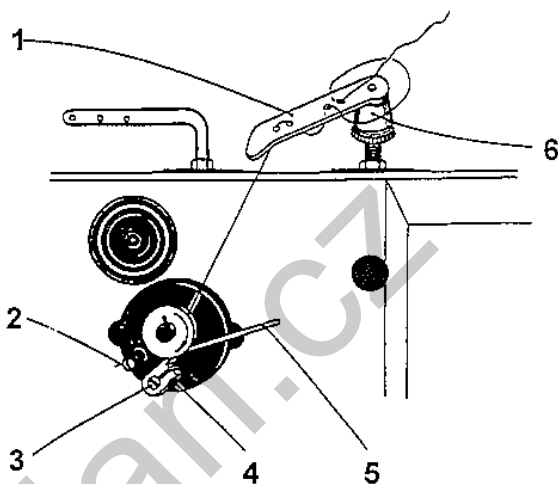

Fig. 6
10. To wind the hook bobbin (Fig. 6)